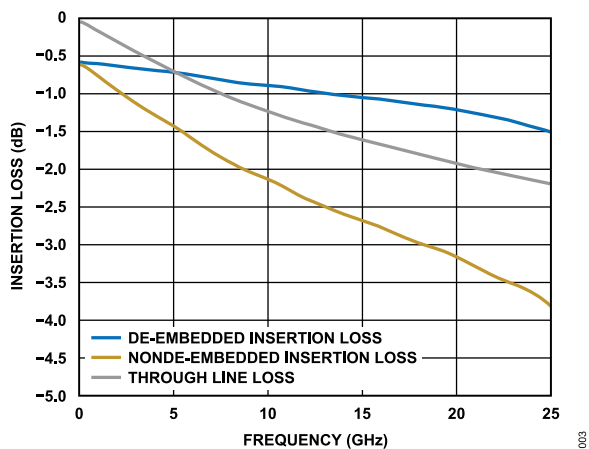
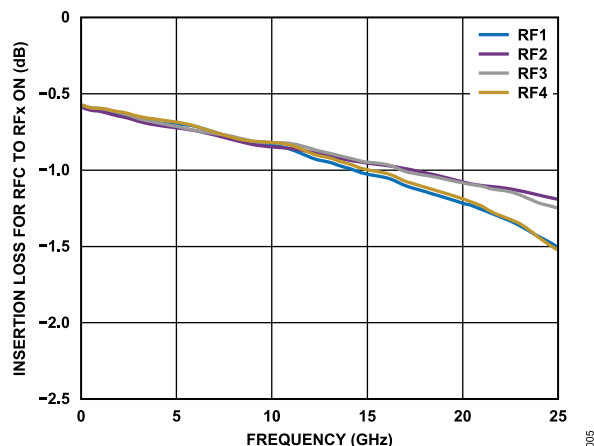
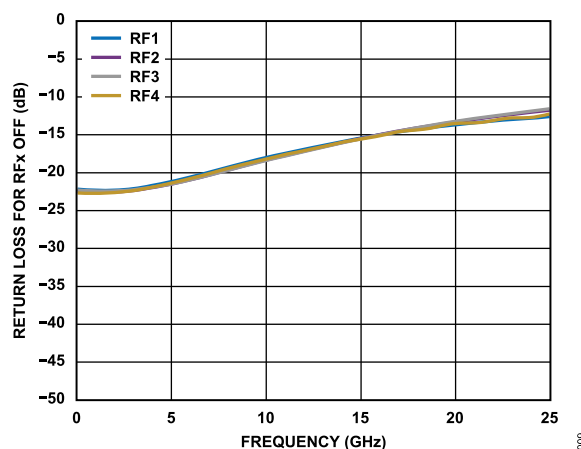

Figure 3. Insertion Loss vs. Frequency
Figure 5. Insertion Loss for RFC to RFx (On) vs. Frequency
Figure 9. Return Loss for RFx (Off) vs. Frequency
The ADRF5051-EVALZ is shipped together with a through line that is used for de-embedding the board loss effects from the measurements, which are enabled to determine the device performance at the pins of the ADRF5051. Figure 3 shows the typical board loss (through line) for the ADRF5051-EVALZ at room temperature, as well as the nonde-embedded and de-embedded insertion loss for the ADRF5051.
6. The ADRF5051-EVALZ is expected to have an insertion loss of 1.20dB at 20GHz. See Figure 3 for the nonde-embedded and de-embedded insertion loss. See Figure 5 to Figure 9 for the de-embedded results.